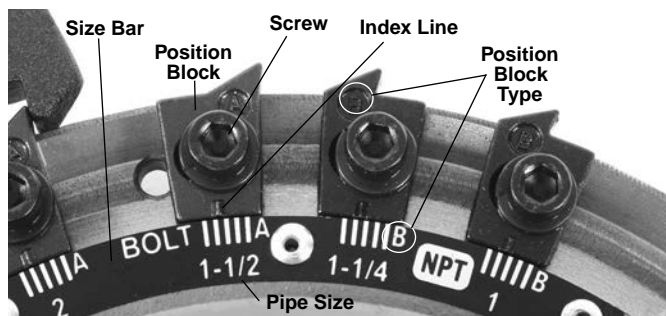

Figure 3 – Adjusting Thread Size
6. Always make sure position block type matches (*Figure 3*).